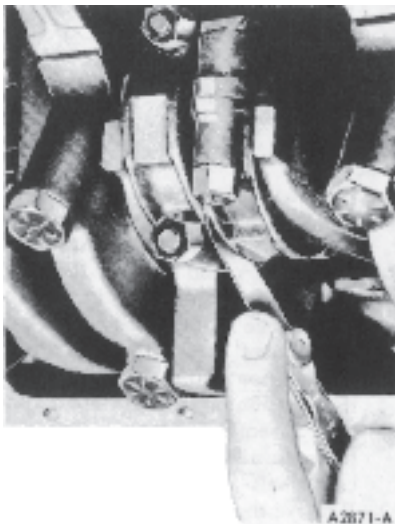

Fig. 37 Checking Connecting Rod Side Clearance
9. After the piston and connecting rod assemblies have been installed, check the side clearance between the connecting rods on each crankshaft journal (Fig. 37).
22. After the piston and connecting rod assemblies have been installed, check the side clearance between the connecting rods and each connecting rod crankshaft journal (Fig. 37).